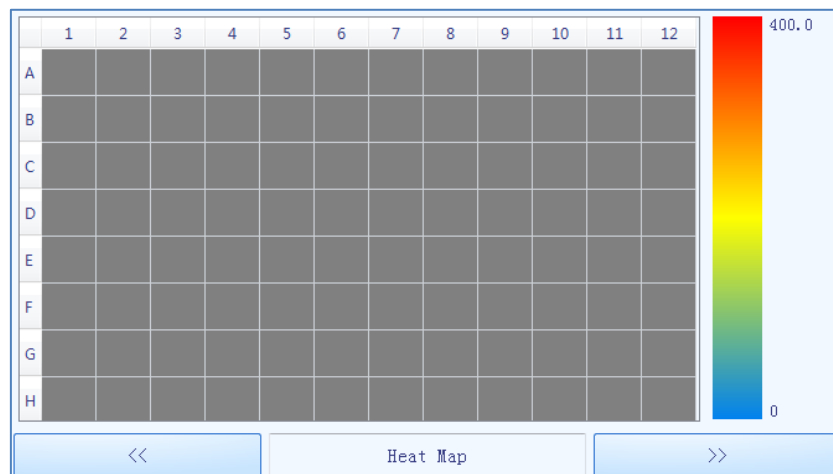

Figure E-5.3. Run Monitoring Diagram - Heat Map
- c. User can press key below the run monitoring diagram to monitor the fluorescence **Heat Map** of the current experiment, as shown in figure E-5.3.